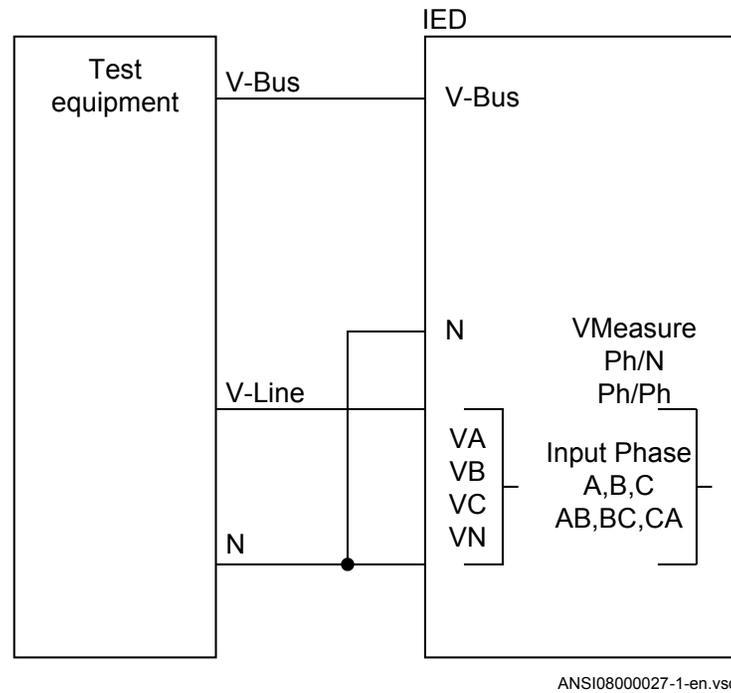

Figure 19: General test connection with three-phase voltage connected to the line side
1. Use the same basic test connection as in figure 19.